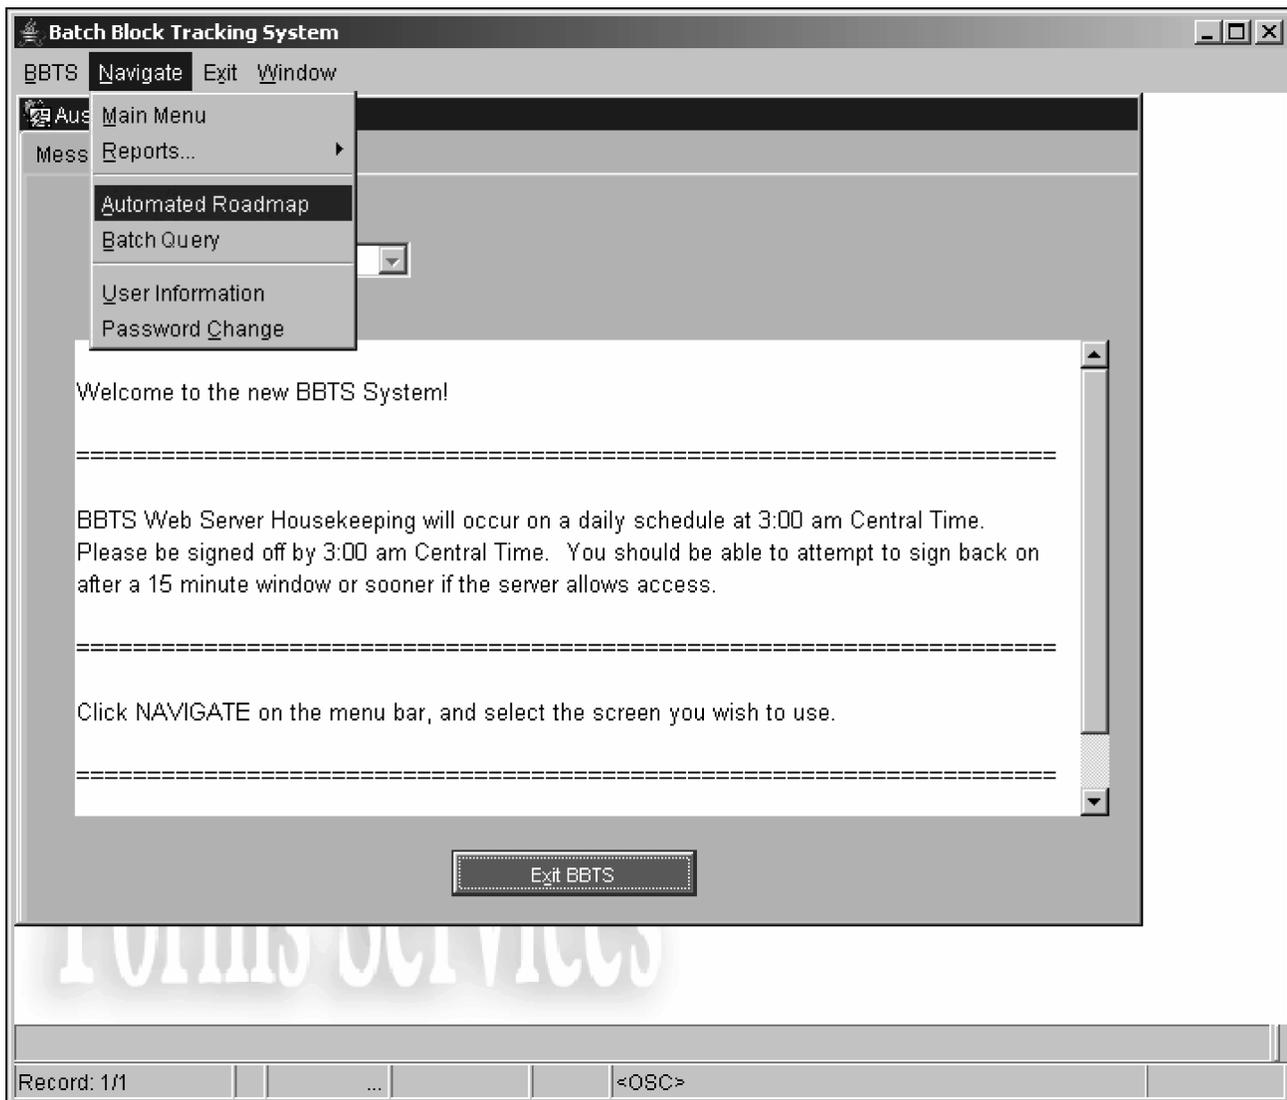

Figure 3.10.5-19 Navigating to the Automated Roadmap Screen
- (1) The Block to Cart Assignment (Automated Roadmap) Screen allows the Error Correction/Data Control functions to keep track of batches of work on BBTS by cart number, slot number, and day of the week. By keeping track of the batches, Error Correction/Data Control can determine when each batch must be moved to the next function.
- (2) "Navigate" to "Automated Roadmap". **See Figure 3.10.5-19.**